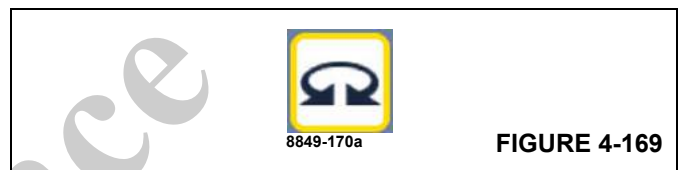

FIGURE 4-169
- When the free swing mode is active, the icon shown in (Figure 4-169) (swing function icon with yellow border) will be shown in the left margin of the operating display (ODM).